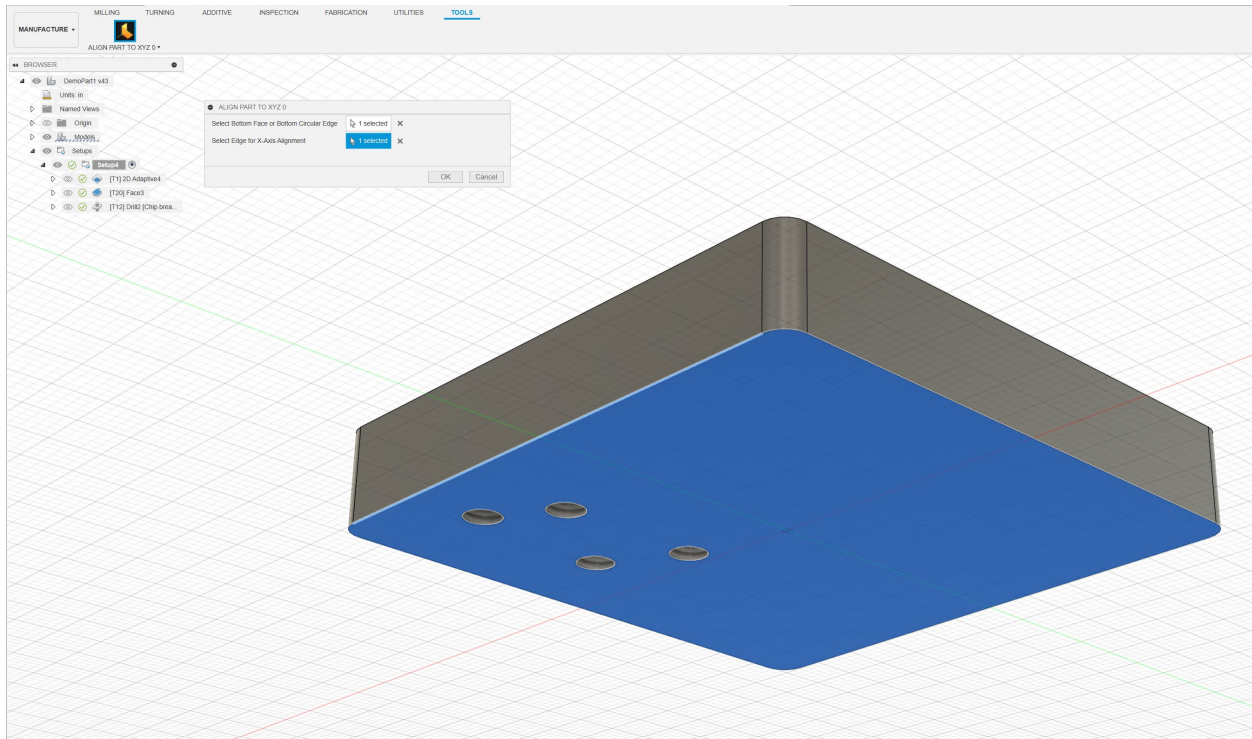

Figure 2: CamAlign command dialog showing selection inputs
- The command dialog appears (see *Figure 2*).